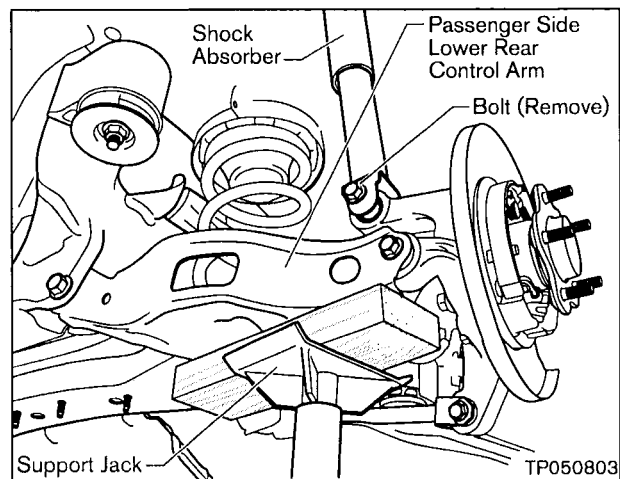

Figure A14
7. Support the lower rear control arm and remove the shock absorber lower mounting Bolt (see Figure A14). Do this procedure on both sides.